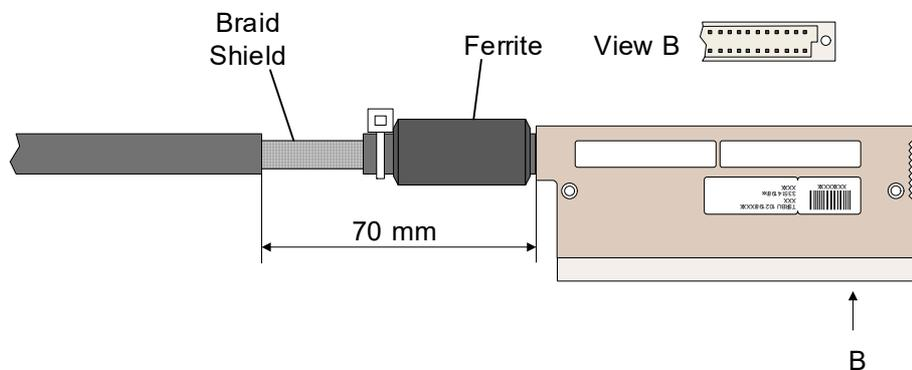

Figure 32: Cable with a one-ferrite EMC filter (sample)
- one-ferrite EMC filter (refer to Figure 32),